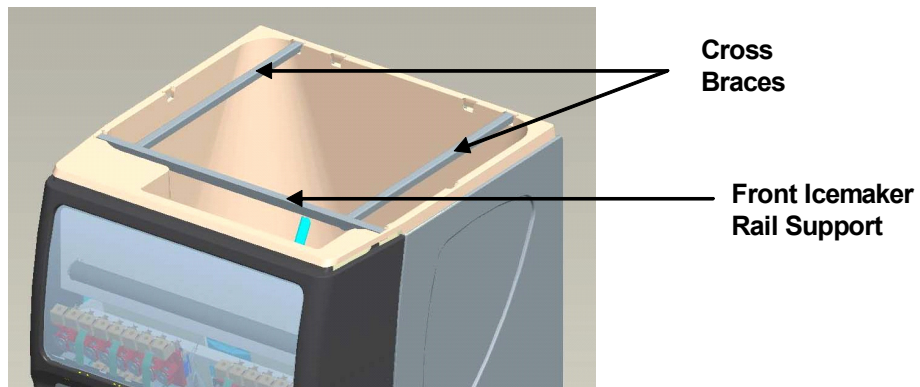

Figure 3.
2. Place Icemaker rail support into pockets in the ice bin as shown in Figure 3.